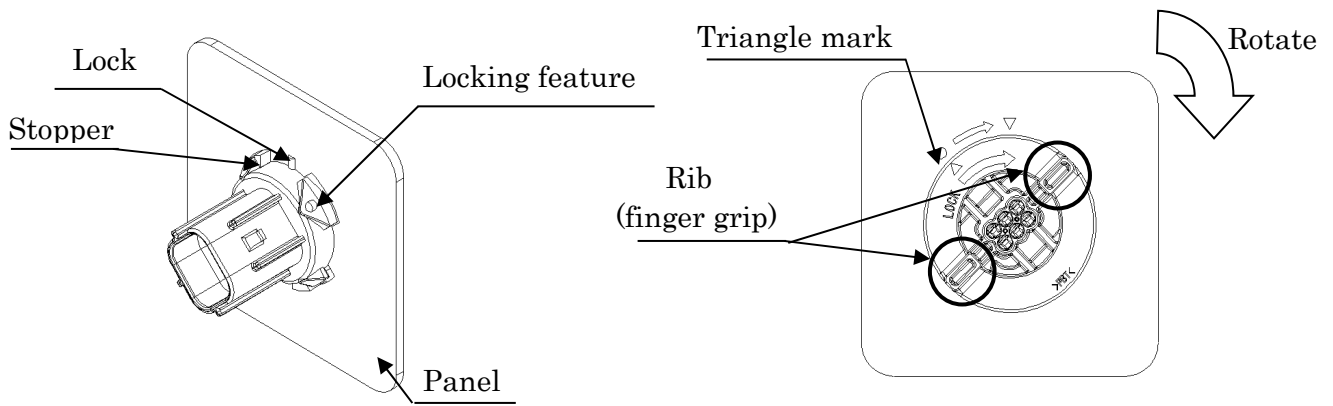
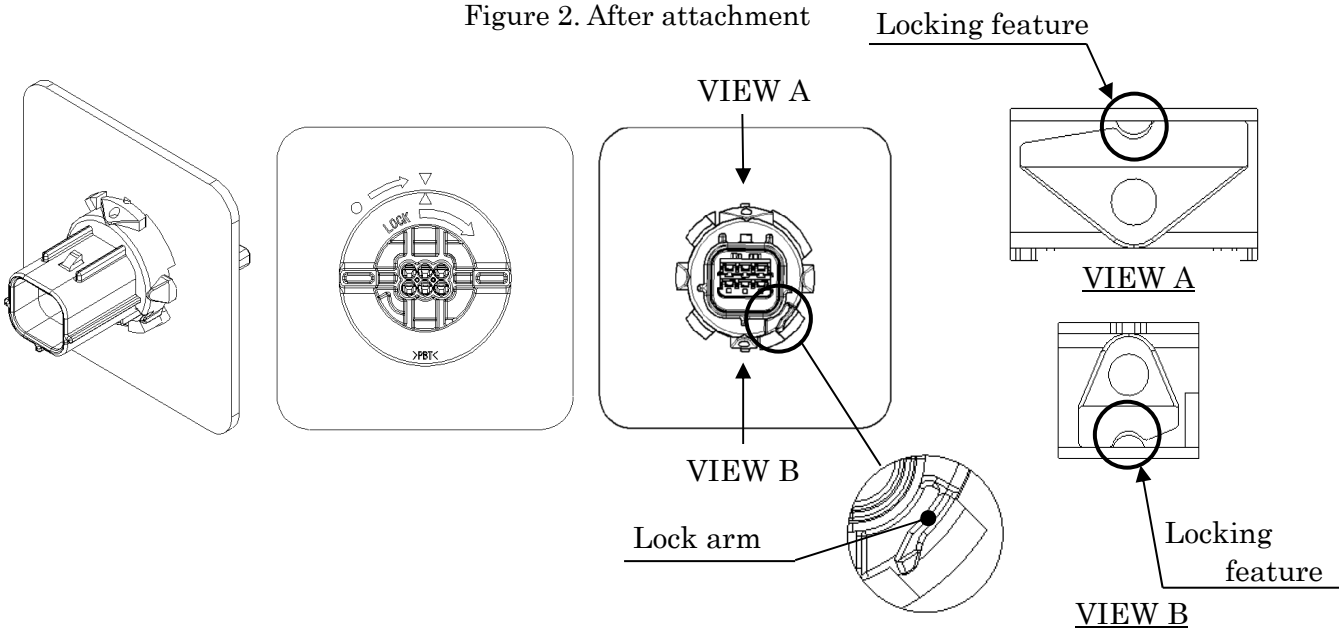

Figure 2. After attachment
Figure 3. "Locked" condition
- 2) Insert the connector in the panel hole (See figure 2). Hold the ribs with fingers or a jig and rotate the connector in a clockwise direction by 45 degrees to lock it in the panel. Then, confirm that the triangle marks are aligned. (See figure 3)